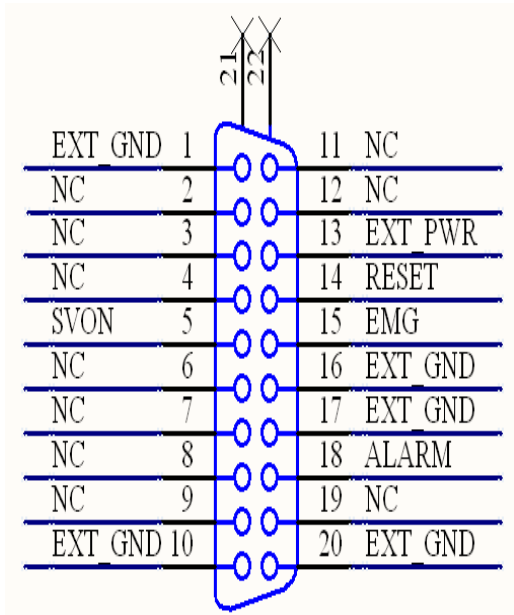

Fig1-6 Pin definition for CN-XB, CN-YB
■ **CN-XB & CN-YB (Fig1-6 connector for each AXIS)**
The connectors CN-XB and CN-YB are 20-pin connectors that enable you to connect to the CNB connector of your motor drivers. Fig.1-6 shows the pin assignment for the 20-pin connector on the DN-8237-MB, and the Table 1-6 shows its I/O connector signal description.